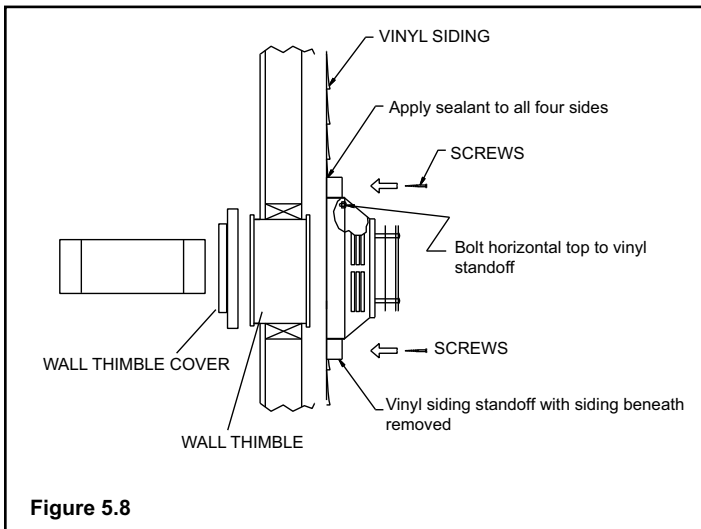

Figure 5.8
**(NOTE:** Some termination caps may cause the vent pipe to be off center on flashing). Ensure that proper clearances to combustible materials are maintained. If you are not using an approved termination cap with a built-in vinyl siding standoff on a building with vinyl siding, a vinyl siding standoff should be installed between the termination cap and the exterior wall (**Figure 5.8**). Follow manufacturer's instructions for attaching the vinyl siding standoff to the horizontal termination cap. The vinyl siding standoff prevents excessive heat from possibly melting the vinyl siding material. The vent terminal cap shall not be recessed into a wall or siding. Remove siding from the area where the standoff will be located.